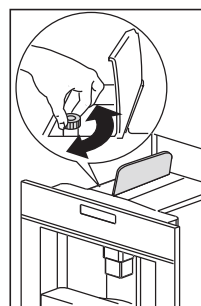

Fig. 21
- If more than one measure of pre-ground coffee is used and the funnel clogs, push the coffee down with a knife (Fig. 21). Then remove and clean the brewing unit and machine as described in the "Cleaning the brewing unit" section.